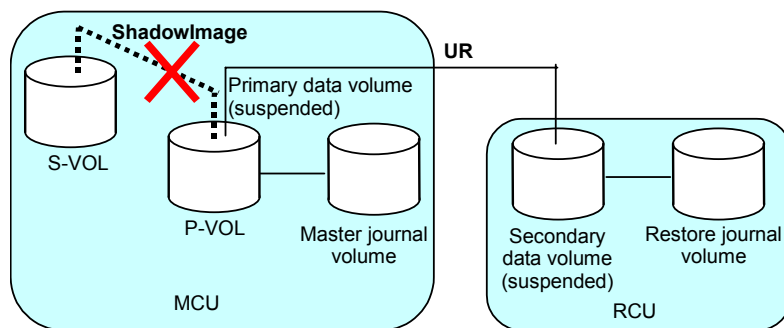

Figure 3-14 Restoring a ShadowImage P-VOL - Step 6
6. Execute the CCI **pairsplit -S** command on the ShadowImage pair to release the pair (see Figure 3-14).